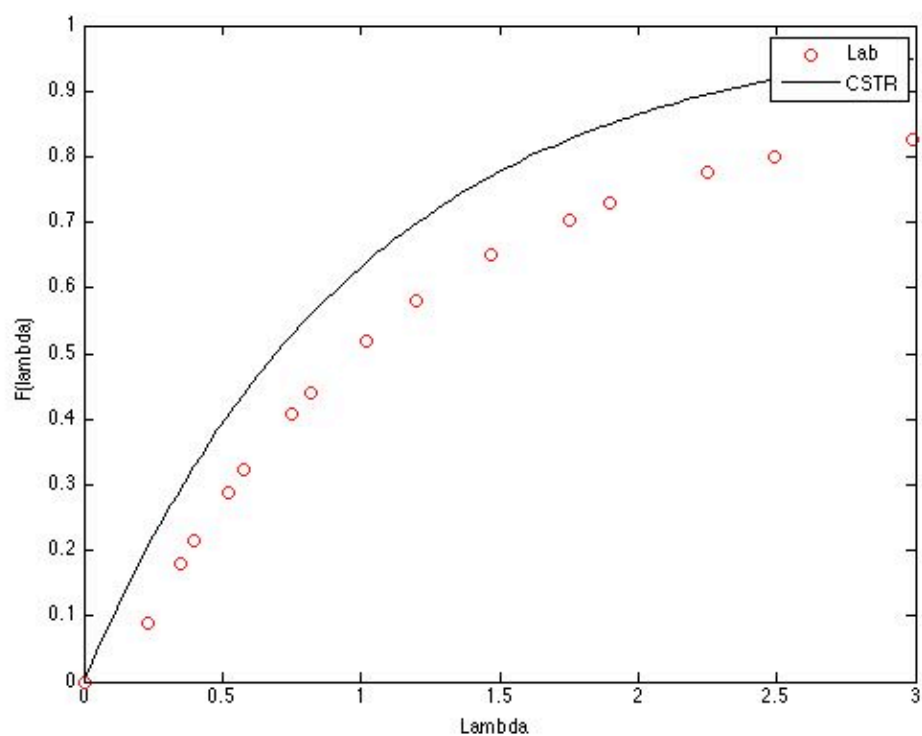

Figure 2. Comparison of the experimental and ideal age function when the first two measured responses are omitted.
If the flow rate was set to a high value, or if significant time was allowed to pass prior to the first sampling of the response, it may appear that the reactor is not ideal. The reason for this is related to the nature of the CSTR response in combination with the use of numerical integration of equation (6). When the impulse is first injected into the reactor, the concentration of tracer immediately jumps to its highest value and then begins to decay. If the first sampling of the response is delayed, then the first measured tracer concentration will be much smaller than the maximum value, and as a consequence, the numerical integral will be smaller than it should be. One tell-tale indicator of this problem will be that the age function will level off at a value less than 1.0. To illustrate, I repeated the analysis above, but deleted the second and third rows from the data table, simulating a situation where the first sampling was too late. The resulting age function plots are shown in Figure 2.